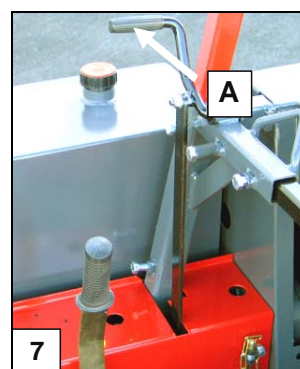

Fig. 7. Stop switch of the TR model
3.3 Stop switch of the tractor-powered machine (Figure 7)
- ❑ Stop the machine immediately. Stop machines powered by electricity or combustion engine with their emergency stop button, and the machine powered by tractor by pulling the clutch A, Figure 7.